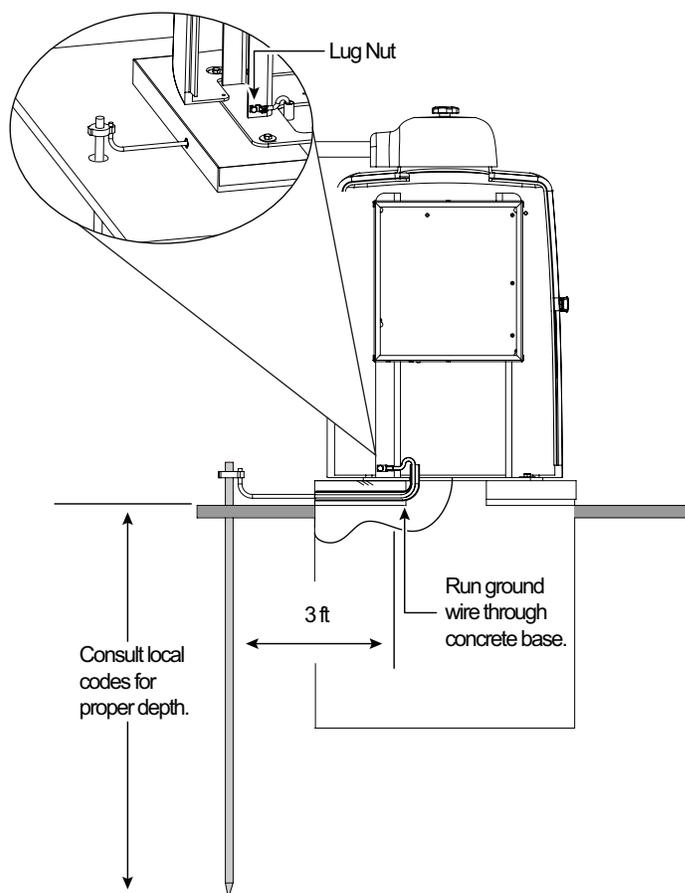

Figure 17. Installing Earth Ground
1. Install a grounding rod per local building codes. See Figure 17.